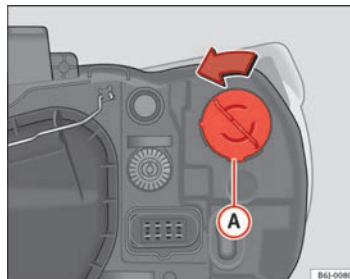

Fig. 152 Single turn signal lamp
- Turn bulb holder ⇒ Fig. 152 Ⓐ to the left and pull.